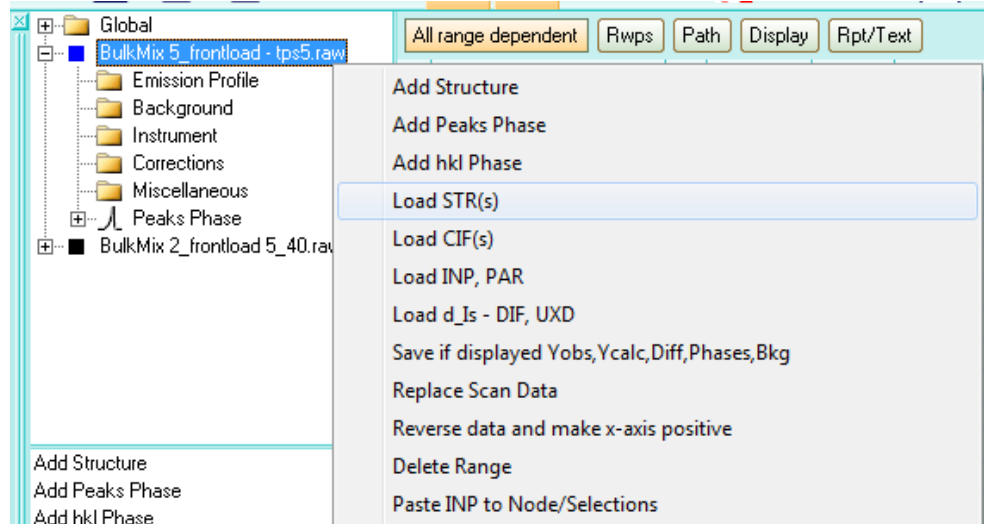

Figure 14. Load STR(s) pathway
1. Right click on the desired scan and select 'Load STR(s)' (Figure 14)